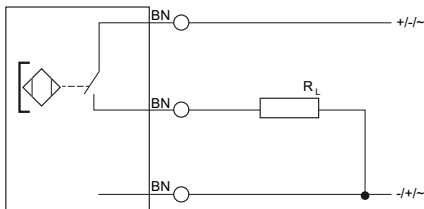

Fig. 5: Operation of the reed switch
- The Reed switch must always be operated with a load (RL) (see fig. 5 on page 58) in order to avoid short-circuit over the closed Reed contact when actuating the switch.